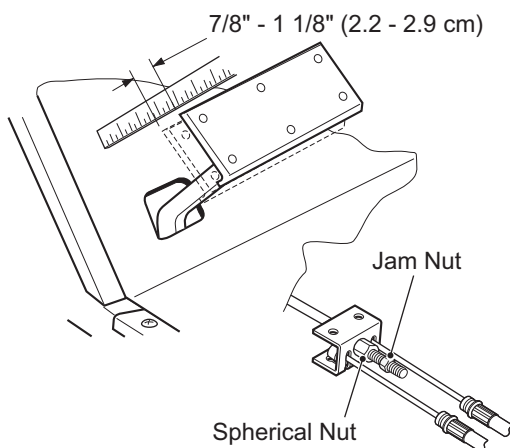

Figure 11 Free Travel Adjustment
1. Pre-adjust the service brake pedal free travel to the correct setting by loosening the jam nut and adjusting the spherical nut (Ref. Figure 11).